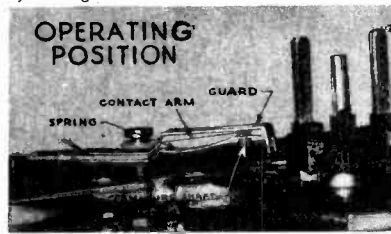

Fig. 5—Silencer Assembly—Operating Position
- Armature tight in bearings and will not push back after switch is off—Free shaft in bearing or replace motor.—Par. 45—Fig. 5.
(36) The small pinion gear inside of the motor rotates freely on the front motor bearing. This pinion is always in mesh with gear No. 1. There are two pins on the armature and two extensions on this pinion. The entire armature shaft assembly slides back and forth in its bearings.
(37) When the circuit through the motor is complete, magnetic action causes the armature shaft to slide toward the front of the panel. The force is strong enough to overcome the tendency of the silencer switch spring to prevent this movement.—Fig. 5.